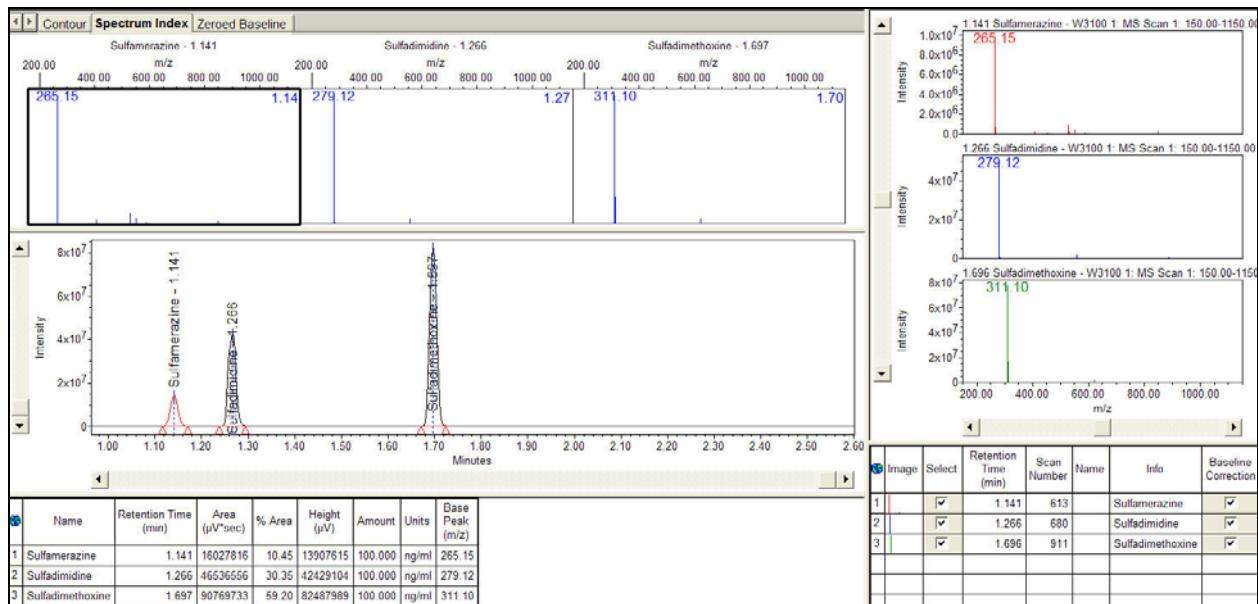

Figure 167 - Spectrum index
**NOTE:** The peaks table may look different from that displayed in Figure 167.